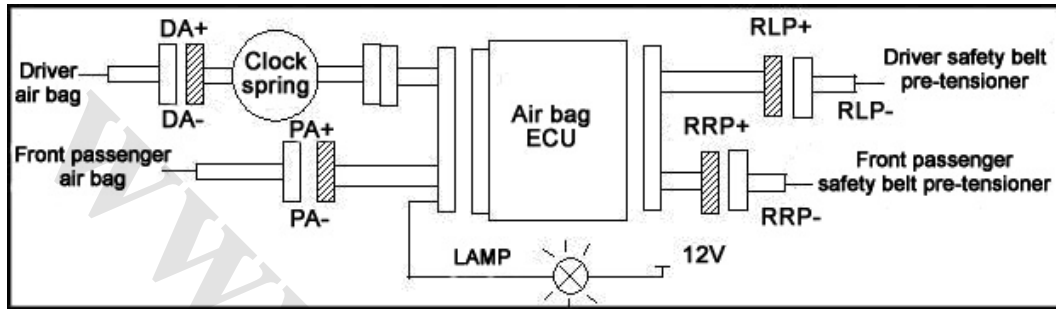

Fig. 5-8
- (1) Remove the negative ground wire from the battery and wait for at least 3min.
- (2) Remove the driver and front passenger air bag modules, keep the air bag module upwards when storing the module (See the removal methods in Section IV).
- (3) Disconnect the interface of the driver and front passenger air bag modules, air bag ECU interface, as shown in Fig. 5-8.
- (1) Connect the air bag ECU with the air bag harness. See Fig. 5-8.
- (2) Connect the negative ground wire to the battery, and wait for at least 3min.
- (3) Turn the ignition switch to the position of ACC or ON and wait for at least 20s.
- (4) Eliminate the flash DTC by the diagnostic instrument and read out the flash DTC.